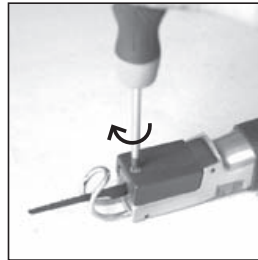

Figure 6
- (6) Pull down the chuck cover and tighten the screw with a screwdriver (not provided). (See Figure 6)